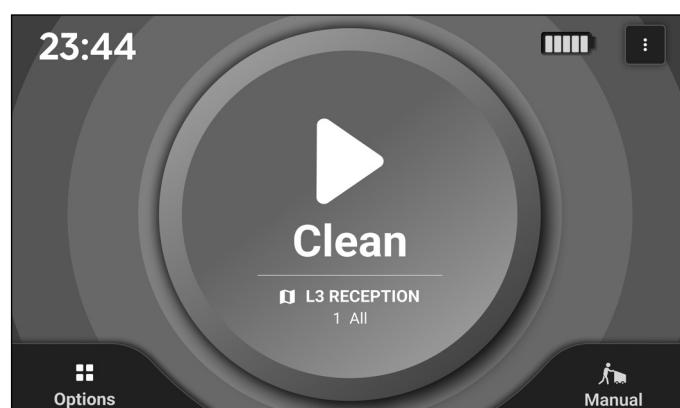

Figure 67
- The touchscreen will return to the 'Home' page once undocking is complete (**Fig. 67**).